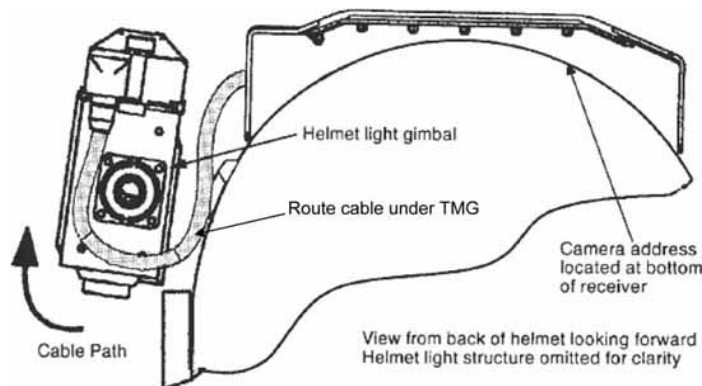

Figure 1.- ERCA Cable Routing.
- Refer to Figure 1 ERCA Cable Routing: